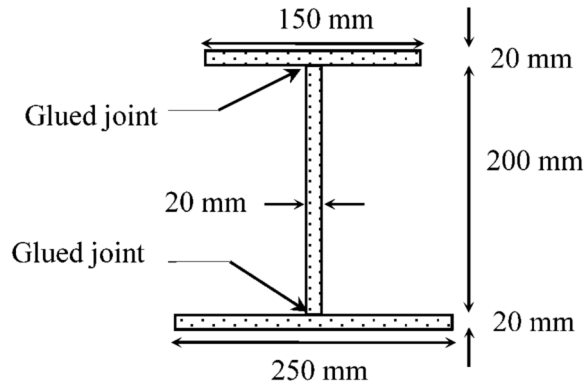

Figure Q6
- 6 The cross-sectional dimensions of an I-beam which is made from three timber boards glued together is shown in Figure Q6. This beam is 6 m long, simply supported at the ends and loaded with a concentrated load of 16 kN at a distance 4 m from the left end support.